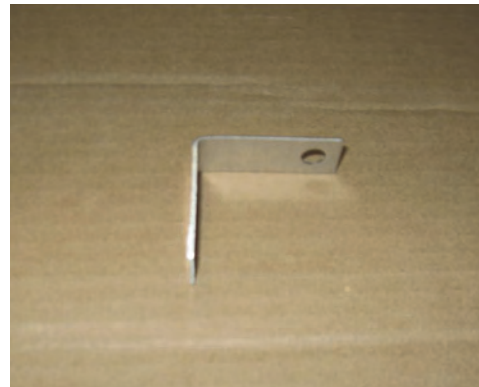

Figure 1b: Newly bent sensor bracket
- b. Put a 90° bend at the center of bracket **SC** (Figure 1b).